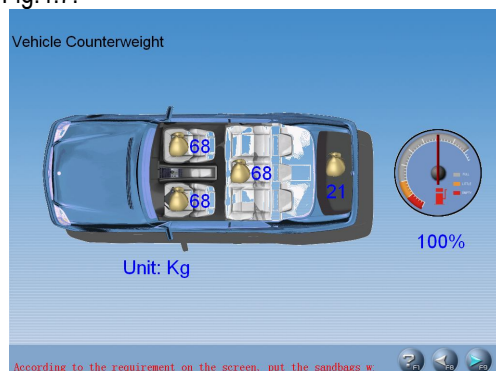

Fig.4.7
- When some special vehicle models (such as BMW 3 series) are selected, the screen will pop up an interface of [Vehicle Counterweight] as shown in Fig.4.7.